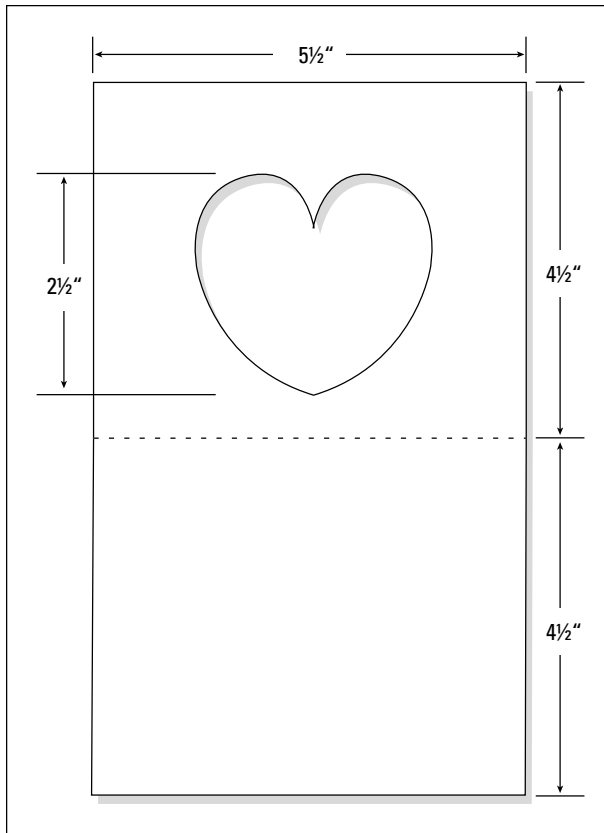

Figure 5-2:
1. Copy the template in Figure 5-2 onto the pink card, score along the dotted line with a pair of scissors, and cut out the card.